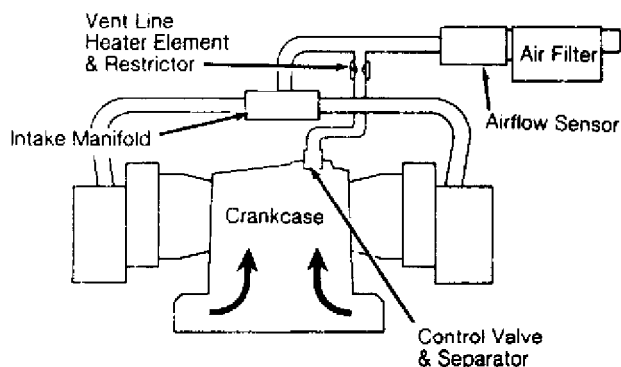

Fig. 1: Testing Fuel Pump Pressure (CIS-E & CIS-Motronic)
1) Connect pressure gauge (VW 1318) between fuel distributor port and the end of the fuel line to cold start valve. Ensure control lever is in the closed position. See Fig. 1. Bleed excess air from system by cycling control valve with gauge upside down.